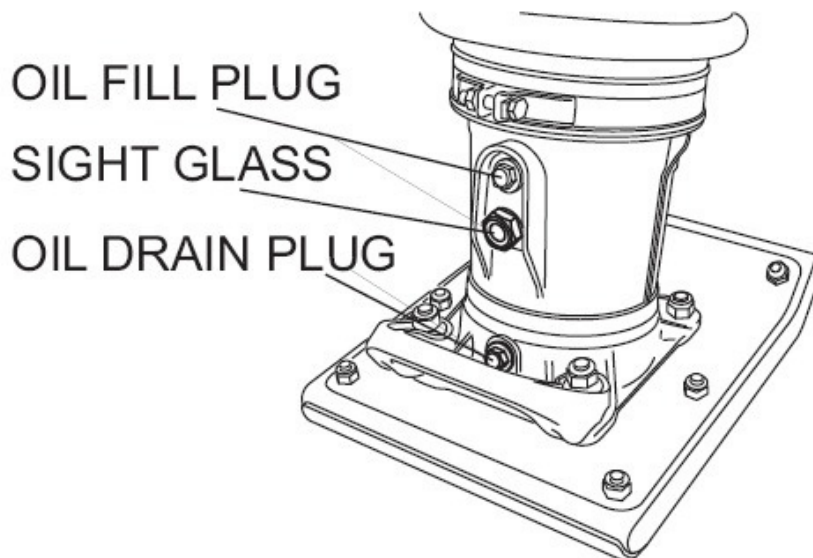

Fig 2
1. Check the oil level through the oil level sight glass (Figure 2) at the rear of the tamper foot.
2. If oil is not visible, add Mobil ISO VG46 or other oil with same standard into the oil fill plug opening (Fig 2). The bath contains approximately 1000 cc..